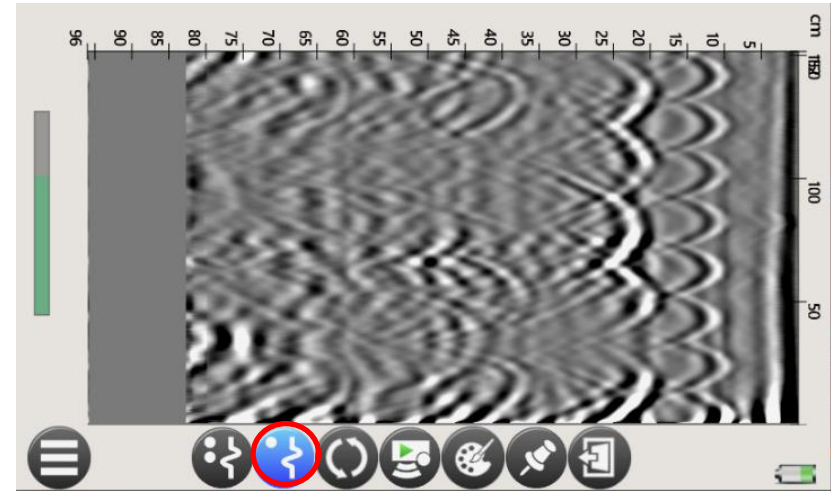

Fig. 55 – Shallower visualization.
IV.  Swath information: clicking this button will open a new window with the survey name, swath number and time of last modification (Fig. 55).
-  click this button to see only the shallower radargram (Fig. 55):